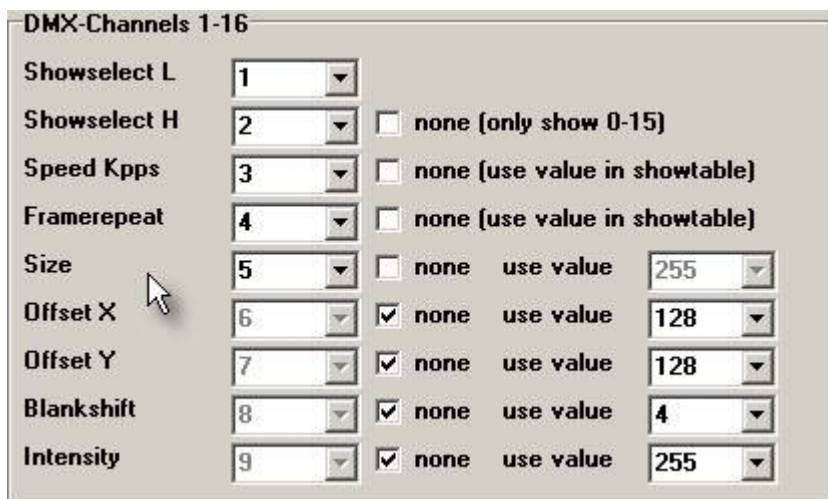

Fig. 4 DMX-channel selection
5.3 Setting up DMX-channels (Fig. 4)